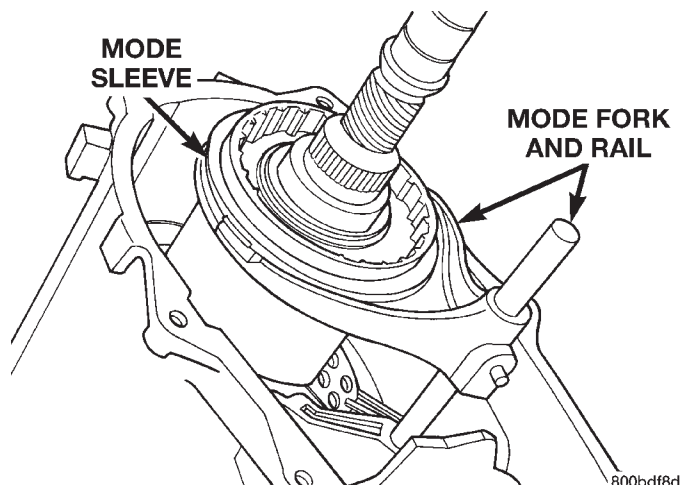

Fig. 63 Mode Fork And Sleeve Installation
(8) Install assembled mode fork and sleeve (Fig. 63). Be sure fork rail goes through range fork and into case bore. Also be sure sleeve is aligned and seated on mainshaft hub.